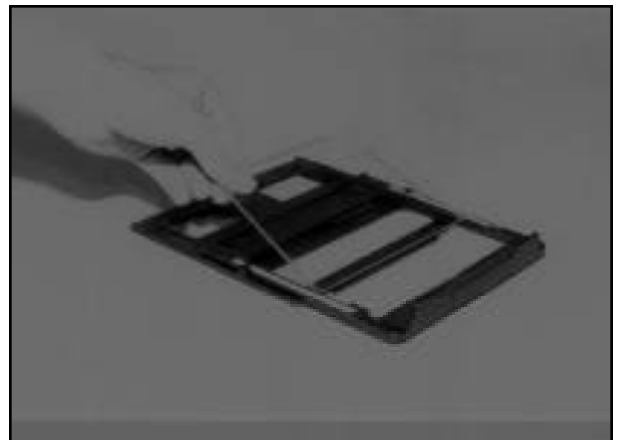

Figure 6
3. Remove lower glass by pushing up from below and pulling out toward the rear (See Figure 6).